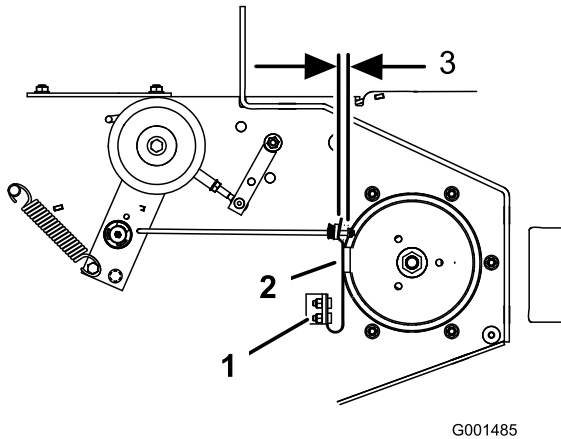

Figure 54
3. If necessary, adjust the spring mounting bolts so that the blade brake pad rubs against both sides of the pulley groove (Figure 54).
4. Adjust the nut at the end of the blade brake rod until there is 3 mm to 5 mm (1/8 to 3/16 inch) between the nut and the spacer (Figure 54).
Note: Make sure that 1 J-hook end of spring is installed behind deck edge before installing the bolt as shown in Figure 54.
6. Place 1 J-hook end of the spring around the grass deflector (Figure 54).
1. Remove the locknut, bolt, spring, and spacer holding the deflector to the pivot brackets (Figure 54).